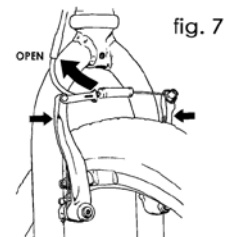

fig. 7
3. **Some bicycle brakes, such as disc brakes (fig. 6) and linear-pull brakes (fig. 7), are extremely powerful. Take extra care in becoming familiar with these brakes and exercise particular care when using them.**
⚠ WARNING: Some bicycle brakes, such as linear-pull (fig. 7) and disc (fig. 6) brakes, are extremely powerful. You should take extra care in becoming familiar with these brakes and exercise particular care when using them. Applying these brakes too hard or too suddenly can lock up a wheel, which could cause you to lose control and fall.